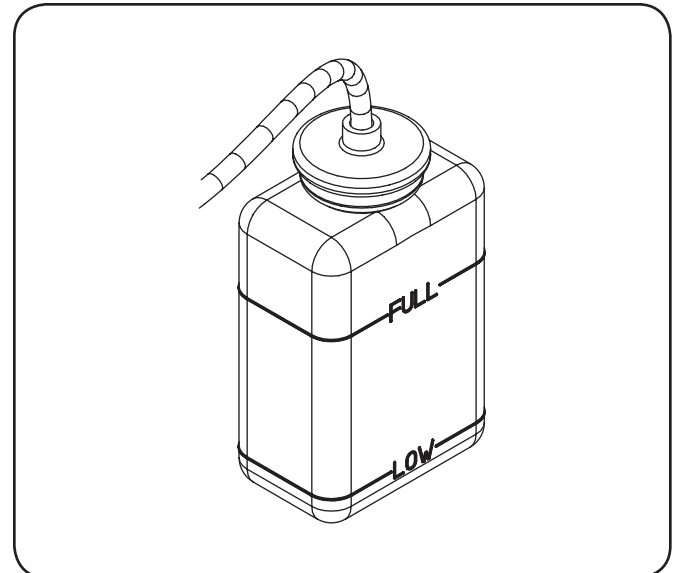

Figure 6-2
3. If the coolant level is below the "LOW" mark, remove the cap from the reservoir and add coolant solution to the "FULL" mark. Refer to Fig. 6-2.